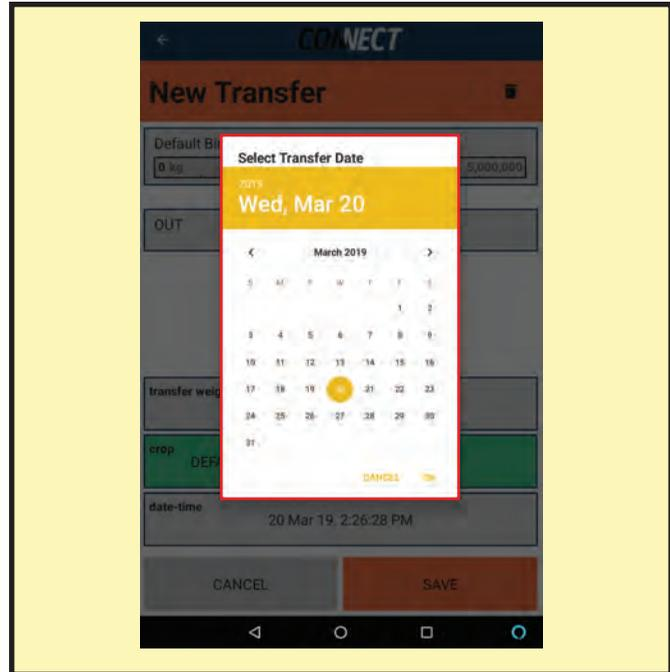
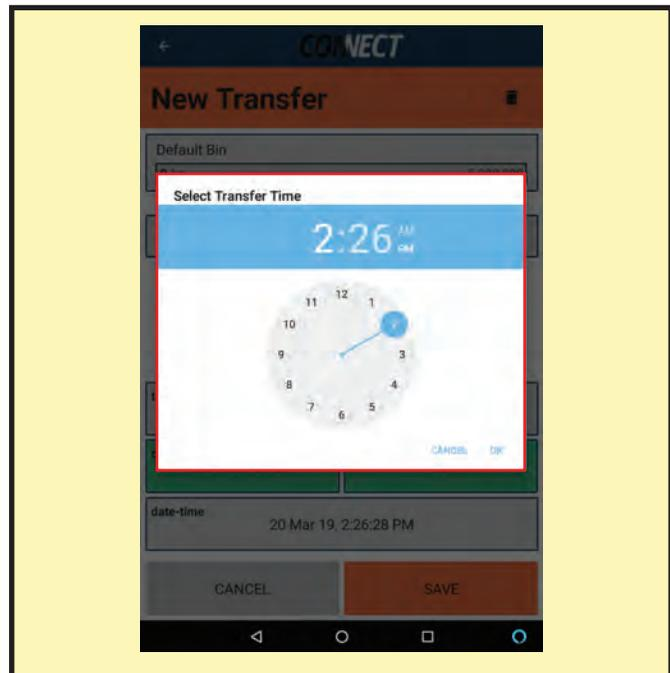

FIG. 69 TRANSFER DATE
FIG. 70 TRANSFER TIME
9. Touch Start Date-Time and End Date-Time to edit their times. See "FIG. 69 Transfer Date" and "FIG. 70 Transfer Time" for date-time instructions.